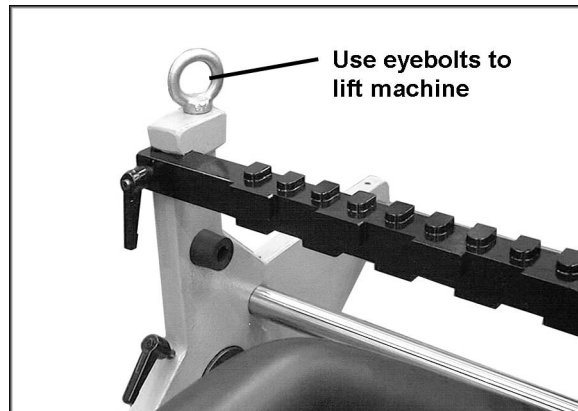

Figure 2
2. Place lifting straps through the two eyebolts at the top of the machine (Figure 2). Using a forklift or hoist, lift the machine off the pallet and into its desired location. The Dovetailer should be located in a dry area with sufficient lighting. Leave plenty of space around the machine for operations and routine maintenance work.
3. When the machine is situated, the eyebolts (Figure 2) can be left on the machine, or unscrewed and removed, if so desired. Be sure to retain the eye bolts for future use.